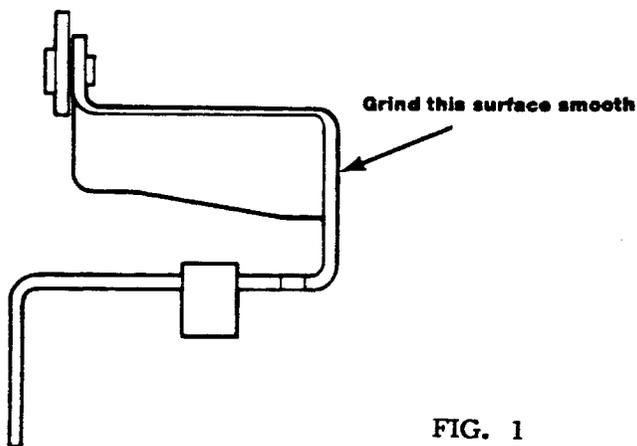

FIG. 1
8. Loosen and remove the four (4) nuts that secure the carburetor to the intake manifold. Remove the carburetor and insert a clean rag into the intake ports to prevent dirt and gasket material from entering the engine.
9. Fox Only: Remove the throttle lever from the original carburetor. Separate the lever halves at the spot welds and grind the welds smooth. (See Fig. 1)